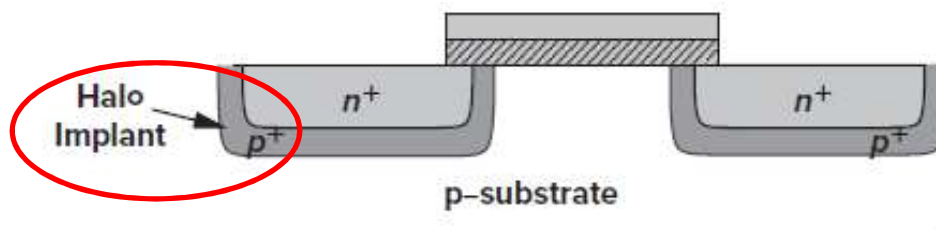

Fig. 17.8
- Due to the nonuniform substrate doping along the channel in Fig. 17.8, the “local” threshold voltage also varies from the source to the drain